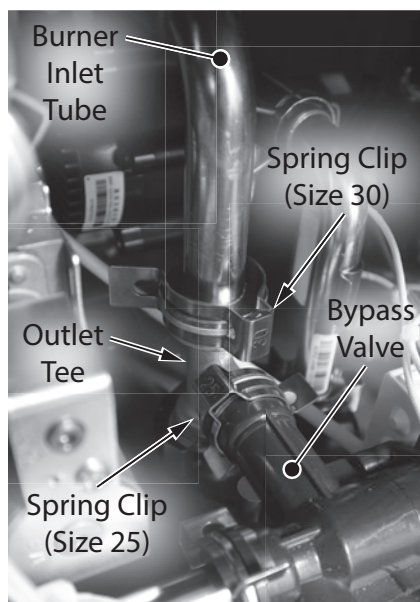

Figure 242 - Remove two spring clips from outlet tee
- 13** Locate the outlet tee connected to the bypass valve and burner inlet tube as shown in Figure 242 on the following page. Remove the large spring clip (size 30) securing the outlet tee to the burner inlet tube. Remove the small spring clip (size 25) securing the outlet tee to the bypass valve. Place spring clips aside in a safe place for reinstallation. **DO NOT** remove spring clip securing outlet tee to cartridge manifold.